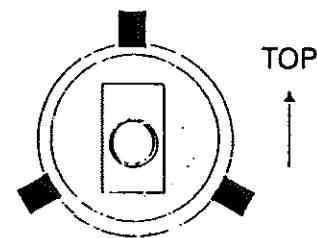

Fig. B-4-4
- B-4-4. The wedges should be placed as per Fig. B-4-4.